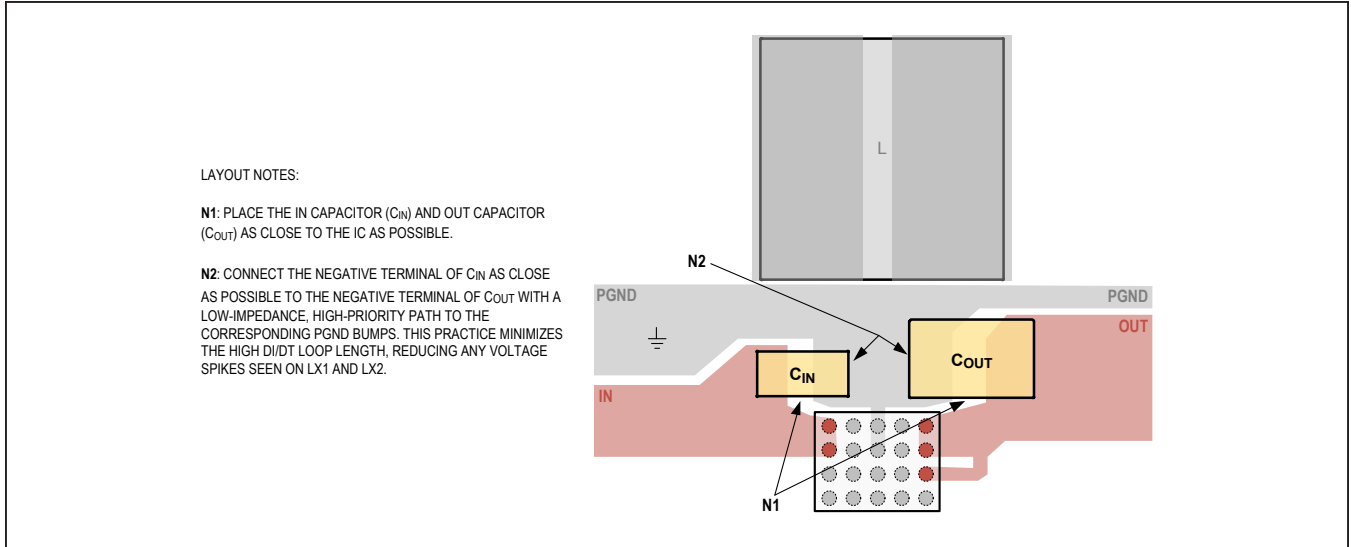

Figure 7. Recommended Capacitor Placement
1. Place the input capacitors ( $C_{IN}$ ) and output capacitors ( $C_{OUT}$ ) immediately next to the IN pin and OUT pin, respectively, of the IC. Since the IC operates at a high switching frequency, this placement is critical for minimizing parasitic inductance within the input and output current loops, which can cause high-voltage spikes and may damage the internal switching MOSFETs. See Figure 7 for an illustration.